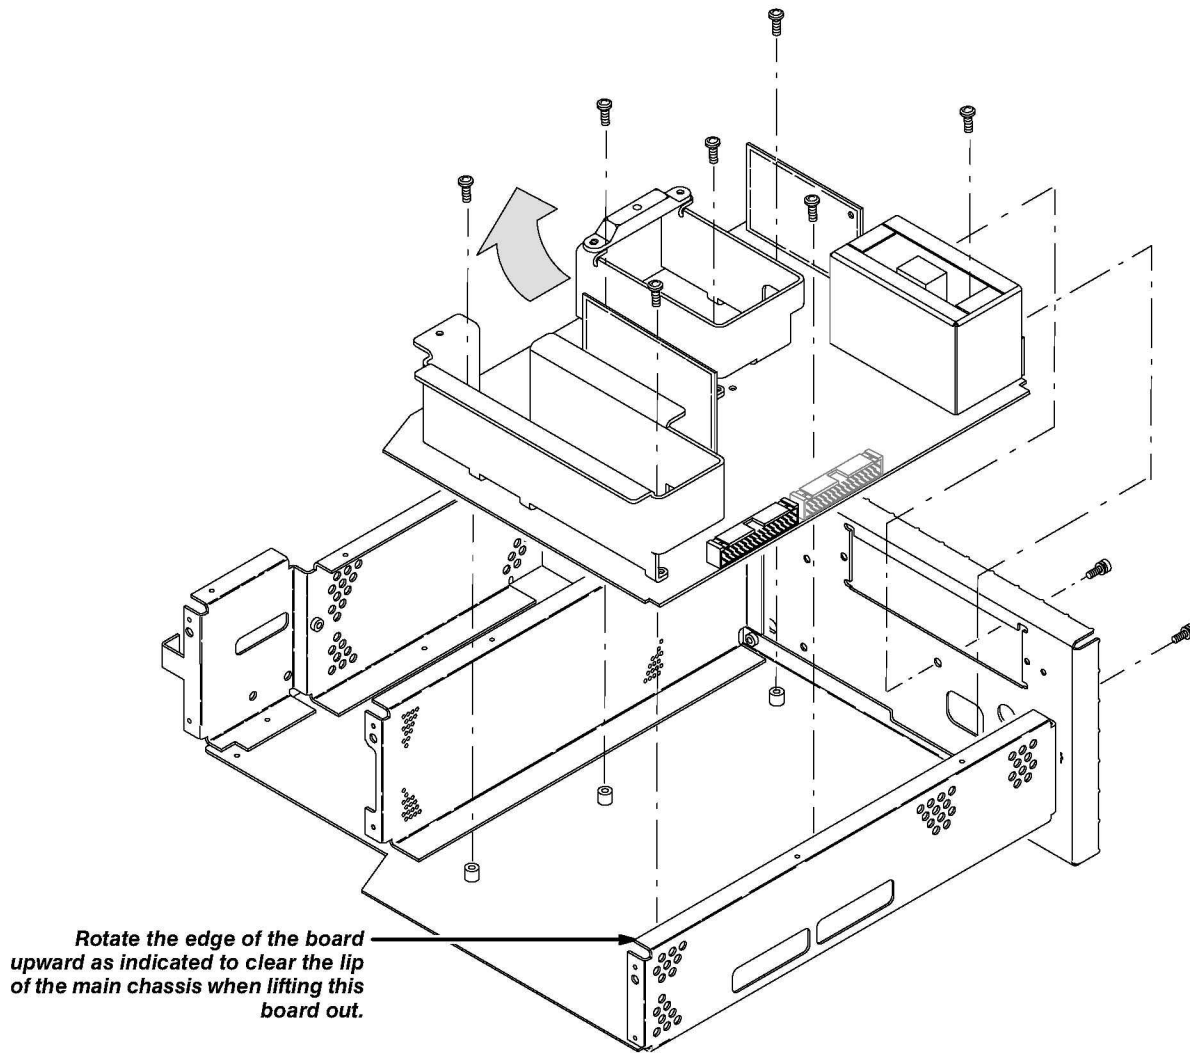

Figure 6-24: A16 Low Voltage Power Supply Removal
- a. Working from the rear of the oscilloscope, remove the two screws securing the low-voltage power supply to the rear chassis. See Figure 6-24.